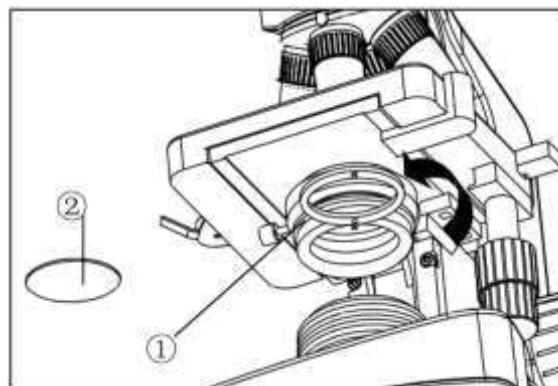

Fig. 7
#### 2.2.4 Install the color filter (Fig.7)
1. Rotating the condenser holder ① out as the Fig.7 shows.
2. Put the filter ② into the condenser holder, then switch back the holder.
### 2.2.6 Replacing the fuse (Fig.7, 9, 10)